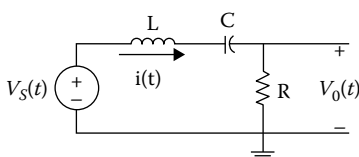

FIGURE P3.6
Problem 3.6 For the series RLC circuit shown in Figure P3.6, $R=5000\Omega$, $L=40.0\text{ mH}$, and $C=0.01\mu\text{F}$. (1) Calculate the damping factor and the undamped frequency. (2) Indicate the type of response of the circuit (underdamped, critically damped and overdamped). (3) Build the circuit and use the Analog Discovery board to the output voltage $V_o(t)$. You can use an input square wave of peak-to-peak value of 4 V with dc offset of 2 V and a frequency of your choice.
Problem 3.7 For a series RLC circuit, such as the one shown in Figure P3.6, if $L=4.0\text{ mH}$, and $C=0.001\mu\text{F}$, (1) calculate the value of resistor R that will result in critically damped response. (2) Build the circuit and use a resistor that will give you an underdamped response. You can use an input square wave of peak-to-peak value of 4 V with dc offset of 2 V and a frequency of your choice. (3) Measure the damping factor and damped frequency. (4) Compare the measured damping factor and damped frequency with the theoretically-calculated values.